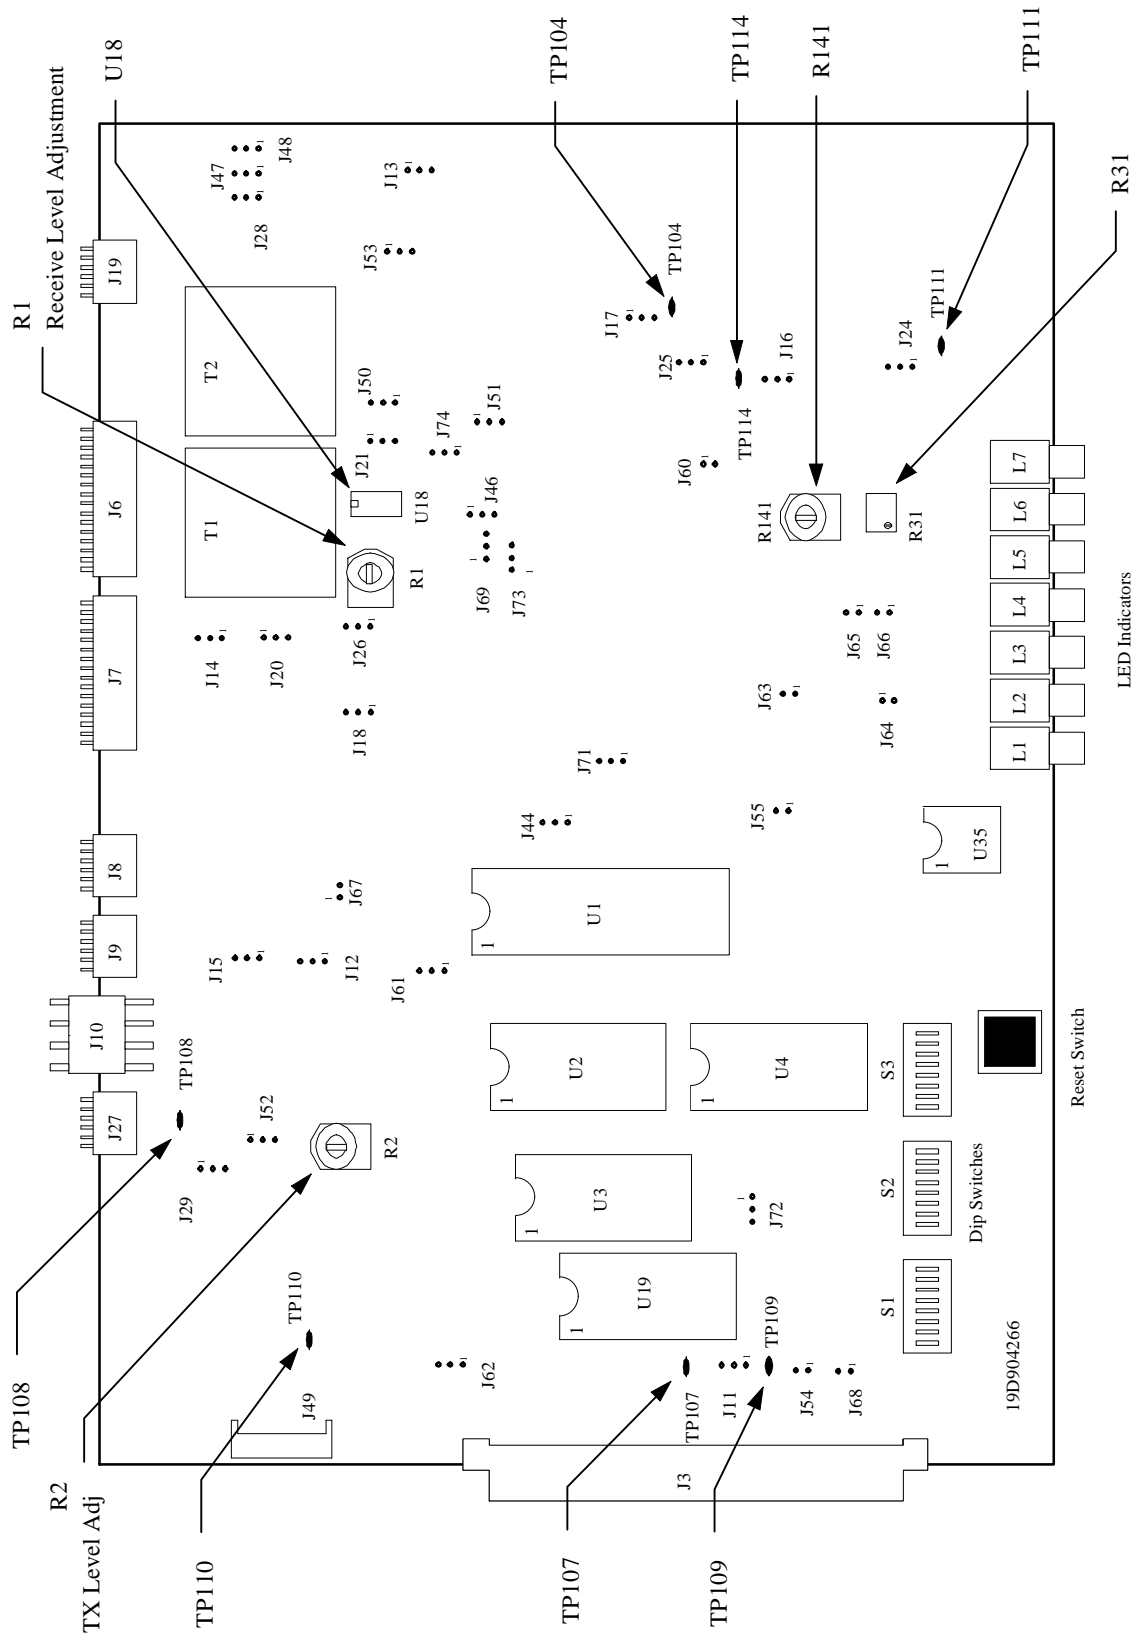

Figure 4 - Station GETC (19D904266) Jumper and Test Point Locations
There are a few jumpers on the GETC Logic Board which must be re-configured for link applications. The specific jumper configuration depends on the type of Downlink GETC (Wideband or Narrow Band) or Uplink GETC. To properly configure the GETC jumpers, refer to the jumper tables in SRN1061 and install or remove jumpers according the intended GETC application. The location of the jumpers may be found using the board layout diagram in Figure 4.
2. Set the GETC DIP switches S1, S2, and S3 for the programming mode as shown in Figure 6. DIP switches S1-S3 are located near the front of the GETC Shelf, see Figure 4.
3. Reset the GETC by either applying power or pressing the GETC RESET switch S4, see Figure 4, located just below the DIP switches. Resetting the GETC, in combination with the DIP switch settings, places the GETC into the Personality Programming mode.